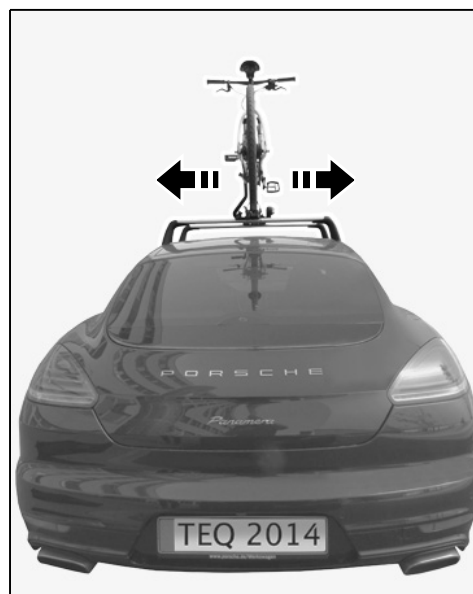

Figure 17
- 5.3.1 Sideways, with respect to the longitudinal axis of the vehicle (⇒ *Figure 17*):